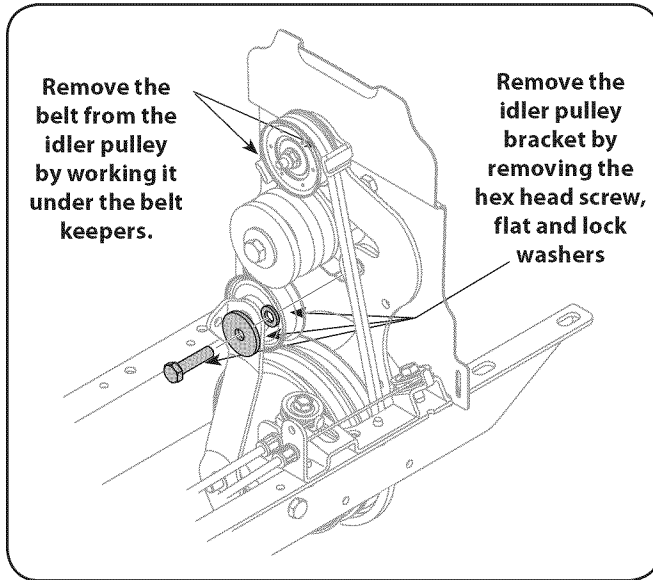

Figure 7-4
- Remove the idler pulley bracket by removing the 5/16-24 hex head screw, flat washer and lock washer, as in Fig. 7-4.